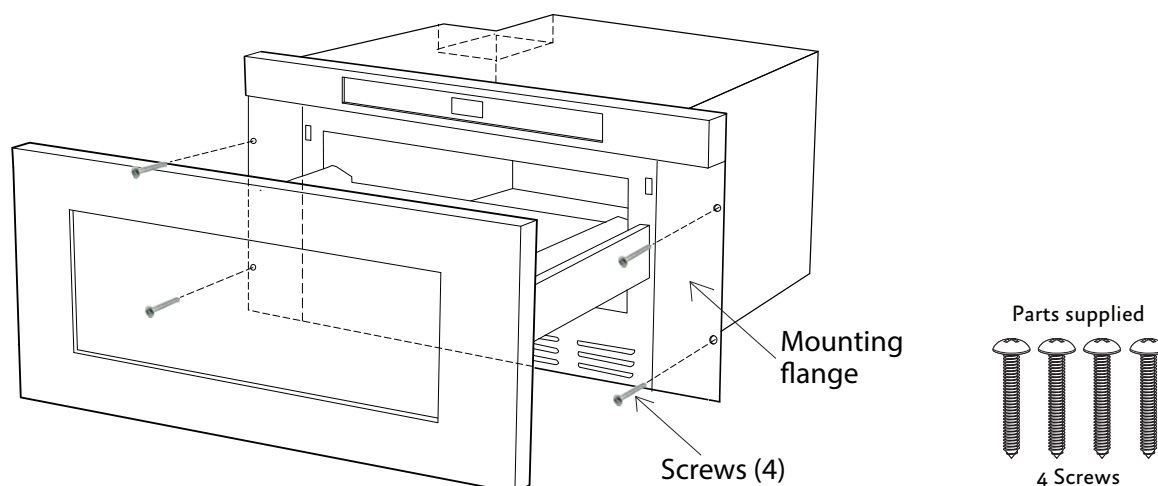

Figure 10. Screws and mounting flange
3. Slide the drawer all the way until the mounting flange is flush with the face of the cabinet. See Figure 10.